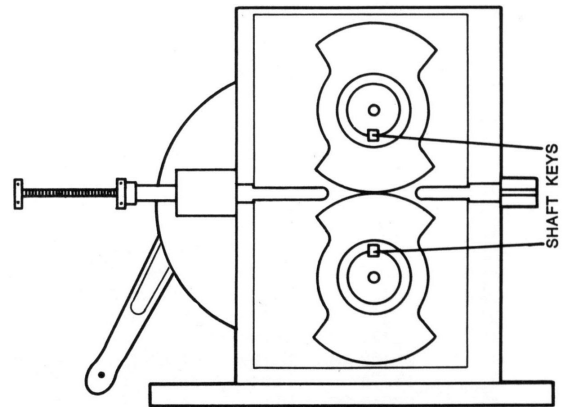

Figure II-21 Alignment of Keys for Proper Timing of Rolls
roll shafts (59) in their bearings on the roll side frame (71) and turning them so that the roll keys (5) are positioned and lined up as shown in Figure II-21. Holding the two shafts in this position, line up the keyways in the two 30-tooth gears (55 & 56) one at a time with the gear keys (57) in the shafts (59) and push the gears into mesh.